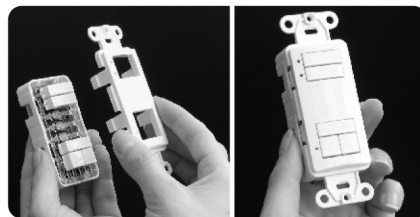

Figure 3 & 4
3. Attach new Channel Button Face Plate (as shown in figure 3 & 4).